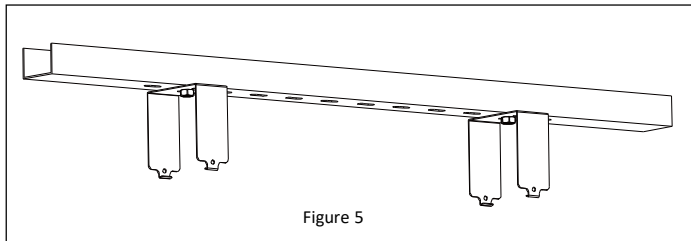

Figure 5
1. Mount the brackets on the ceiling or a rail. *See Figure 5.*